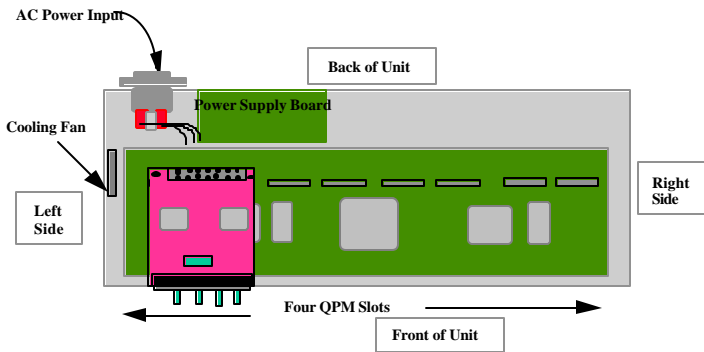

Fig. 3.9.2b Top View : 4PM Module Installed inside a LE1416A
- ep 5. Be sure the 4PM front panel is guided into the front slot cut-out first and then precisely aligned the header pins with the holes in the socket slot mounted on the board. Slowly and carefully apply enough pressure on both rear corner of 4PM Module to insert the 4PM card's pins into position. A click sound will determine the proper lockup of the two, see Figure 3.9.2b. (If you force the 4PM down when the pins are not properly aligned with the holes in the header, the pins will become bent and the 4PM is damaged).